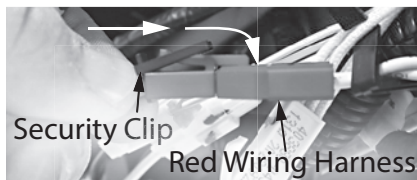

Figure 242 - Reconnecting the wiring harness
- 26** Secure the condensate trap with the three (3) screws removed in **Step 21**.
**NOTICE:** Carefully insert the black safety clip into the red wiring harness. See Figure 242.